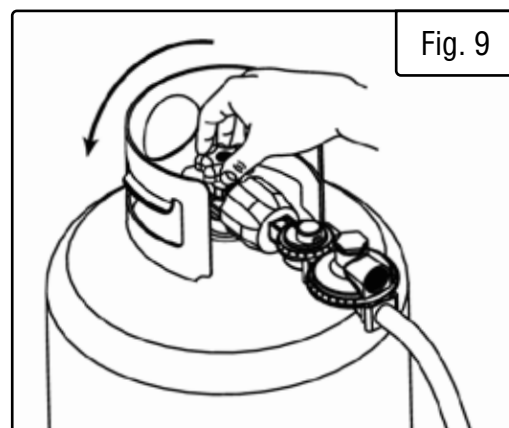

Fig. 9
4. Turn the LPG tank valve ON (Fig. 9) and check for leaks by spraying soapy water to check the connections. If bubbles appear, become larger in size, or increase in number, a leak exists. This must be corrected before using the generator. Contact your local Independent Authorized Service Dealer (IASD) for assistance.